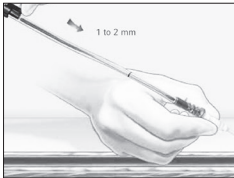

Figure 2
- Once a blood flashback has been obtained, decrease the angle of the device to 10-20 degrees from the skin and advance entire placement device a maximum of 1 to 2 mm further into vessel to ensure that catheter is seated within the vessel (refer to Figure 2).